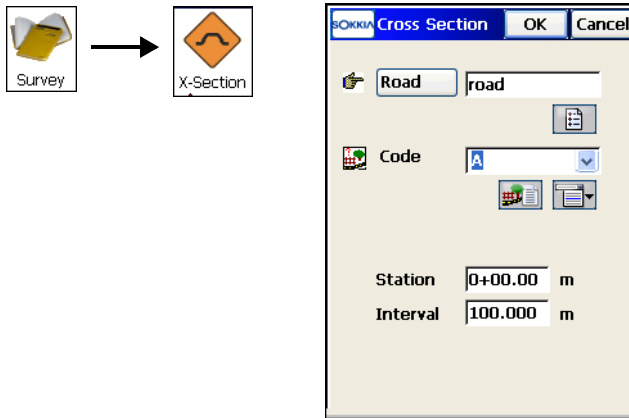

Figure 8-47. Cross Section
1. To start working, tap **Survey** ► **X-Section** (Figure 8-47 on page 8-44).
2. On the **Cross Section** screen (Figure 8-47 on page 8-44), select or enter the following parameters for the station where the survey will be performed, then tap **OK**: the road name, the code and attributes of the center line, the station where the cross section is surveyed, and the interval distance to the next station. If the road has not been created, define the plane.